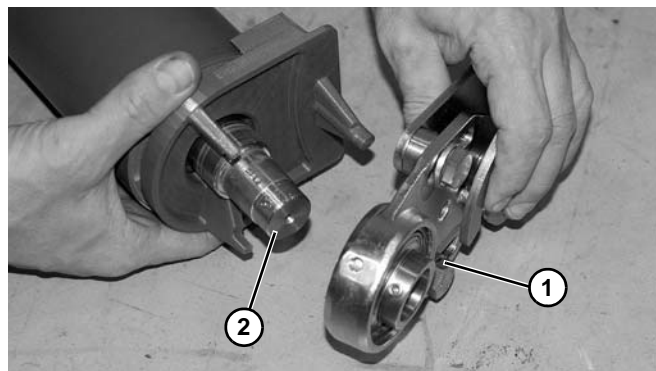

Figure 135
7. Slide the headplate with bearing (Figure 135, item 1) off the shaft (Figure 135, item 2).